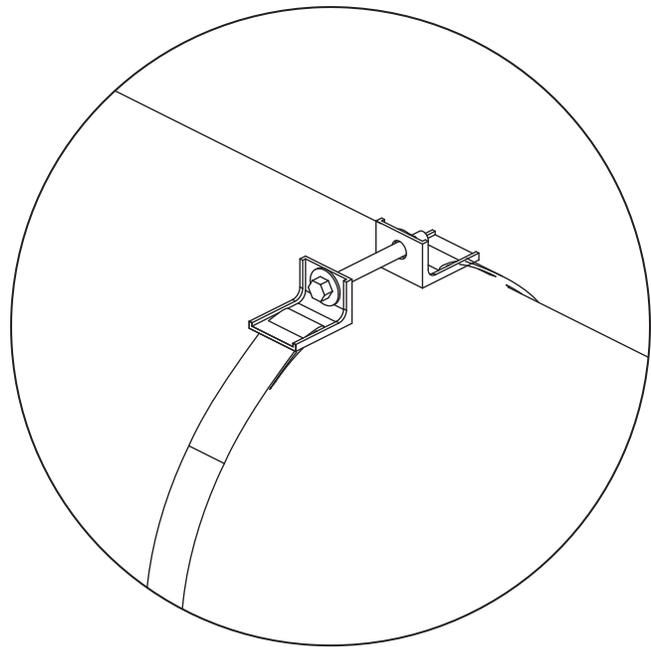

Fig. 6: Mounting Strap Installation
- Trim each piece of the tank strap to extend approximately 75% around the tank. Install the "L" brackets supplied with the tank strap kit with the excess strap material folded underneath the bracket as shown in Fig 6.
- Wrap each piece of the tank strap around the tank and insert the supplied carriage screws into the opening and thread the nut onto the end. There should be approximately a 2-1/2" gap between the "L" brackets. If the gap is larger or smaller than this, re-adjust the strapping material until this dimension is achieved as shown in Fig 6.